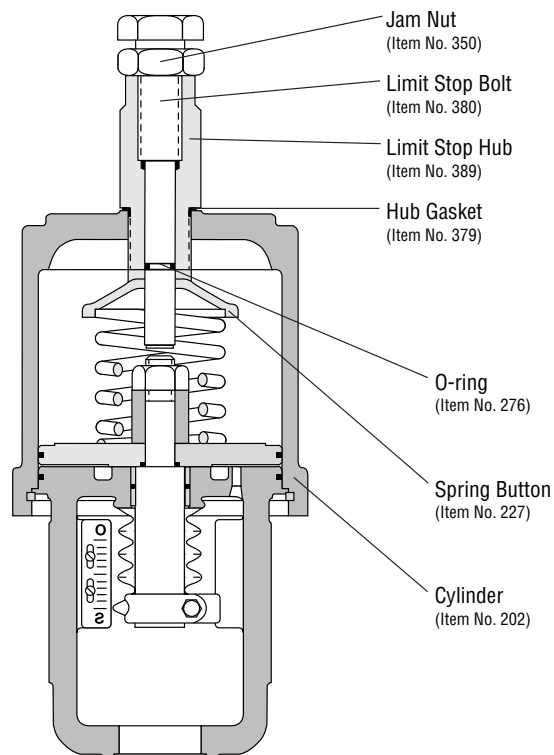

Figure 6: Push-Only Limit Stop
Push-Only Limit Stops (Linear Actuators Only, See Figure 6)
1. Loosen the limit stop jam nut (see Figure 6).
Refer to Figure 6:
Refer to Figure 6 and proceed as follows: